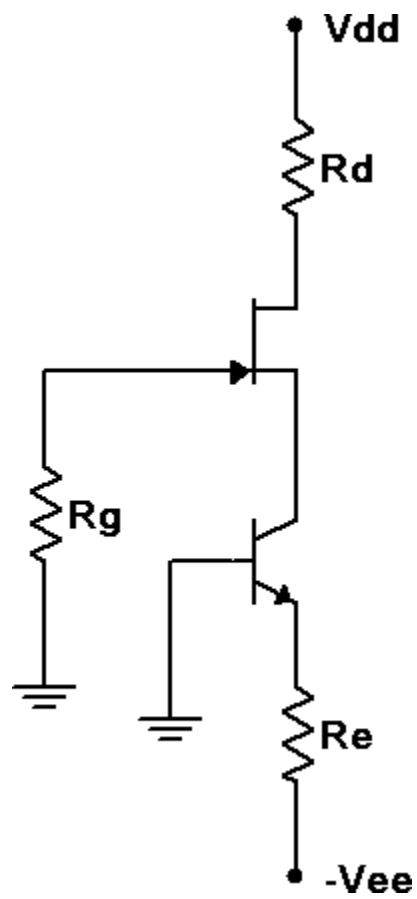

Figure 4
9. Consider the circuit of Figure 4 using  $V_{DD} = 15$  volts,  $V_{EE} = -5$  volts,  $R_d = R_e = 4.7\ k\Omega$  and  $R_g = 330\ k\Omega$ . Calculate and record the expected voltages for JFET 1 in Table 6. Also record the expected drain current in Table 7.
10. Build the circuit of Figure 4 using  $V_{DD} = 15$  volts,  $V_{EE} = -5$  volts,  $R_d = R_e = 4.7\ k\Omega$  and  $R_g = 330\ k\Omega$ . Measure and record the voltages for JFET 1 in Table 6. Based on  $V_D$ , compute and record the experimental drain current in Table 7. Also find and record the drain current deviation.
4. In general, identify two ways of increasing the drain current in the circuit of Figure 4.